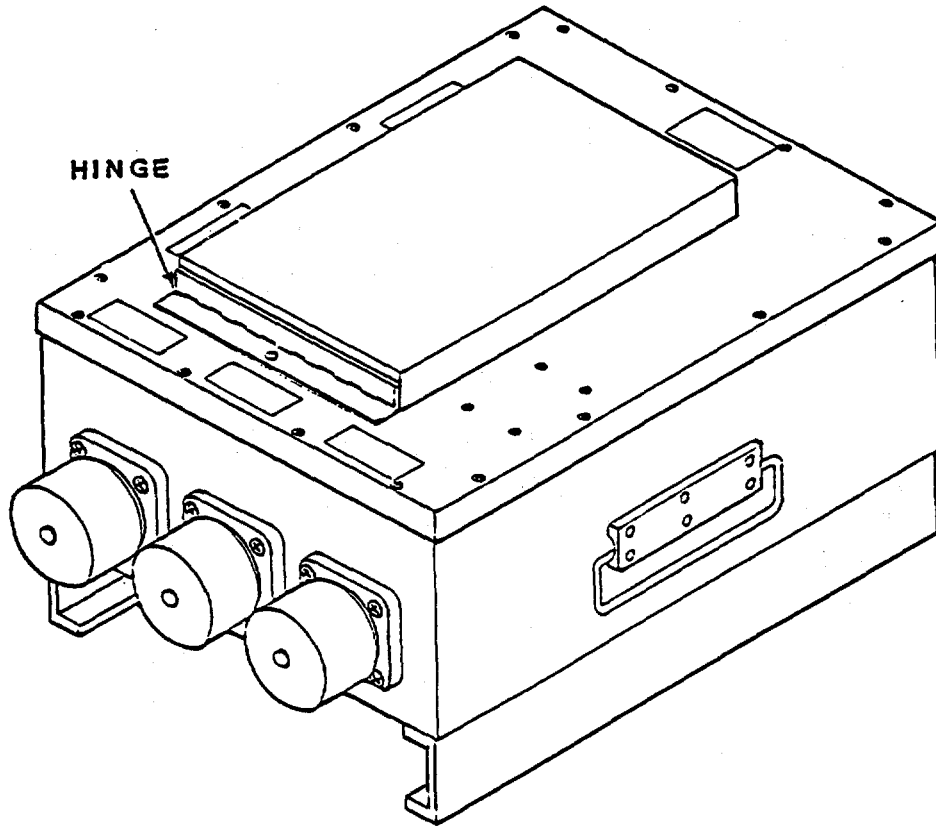

Figure 3-3. Power Distribution Box Assembly Cover Hinge
3-5. POWER DISTRIBUTION BOX ASSEMBLY. Lubricate control panel cover hinge with lubricant (Appendix E, item 4). Refer to figure 3-3. Wipe off excess lubricant and do not allow lubricant to enter the power distribution box. Do not lubricate when in operation.